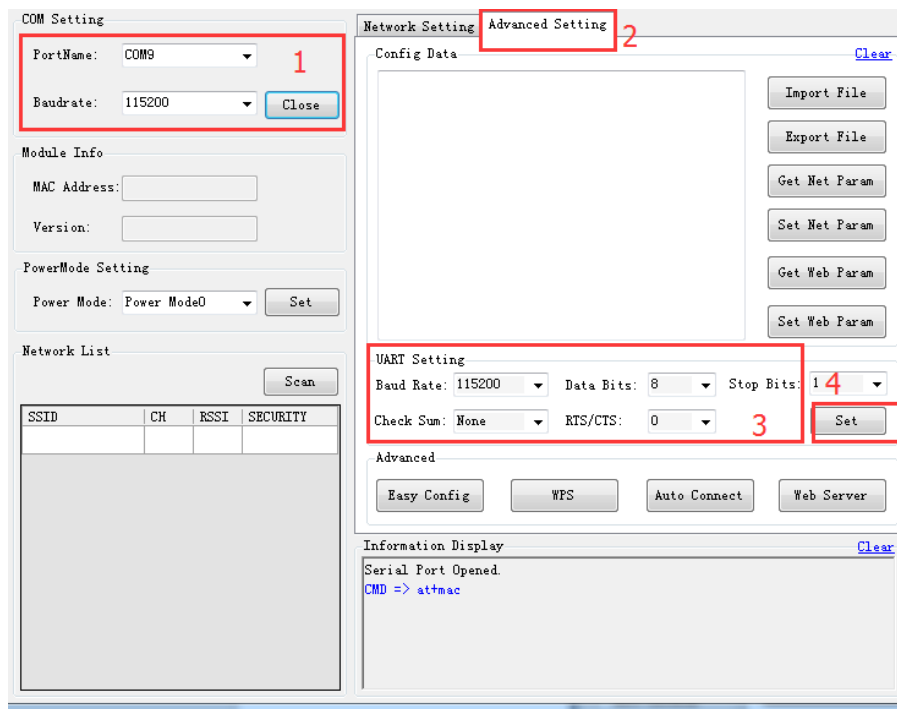

Figure 1-3 Evaluation of the operation steps of setting the baud rate of the module with PC
2. Operate in sequence as shown in Figure 1-3